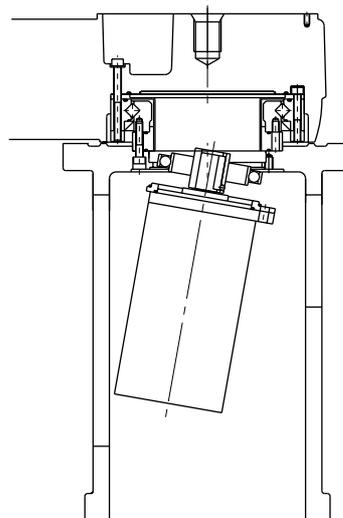

Fig. 5-36
- 8) Slowly pull out the motor while holding it slantways. (See Fig. 5-36.) If it is difficult to remove the motor, slowly rotate the X-axis arm and again try removing the motor.
Insert the motor with the wave generator into the harmonic drive while holding the motor slantways. If it is difficult to insert the motor, try inserting it again while slowly rotating the X-axis arm. (See Fig. 5-36.)